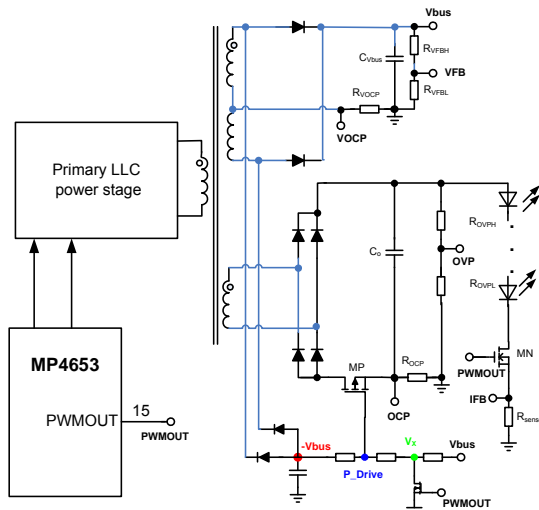
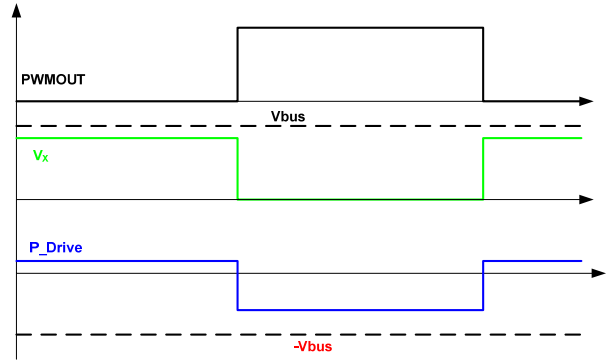

Figure 5A—PWMOUT for the P_MOS Driver
Figure 5B—Scheme of the PWMOUT Driving the P_MOS
The PWMOUT signal is also used to control the external P-MOS (MP) for protection, as shown in figure 5A. Figure 5B shows the operating scheme of this driving circuit. A negative voltage source (-Vbus) is generated from the secondary winding of DC bus stage. A pulse waveform at “V_X” is generated through the PWMOUT signal. By summing the negative voltage source and V_X, a pulse waveform with a negative magnitude is generated on “P_Drive” (the P-MOS gate) and is used to drive the P-MOS.